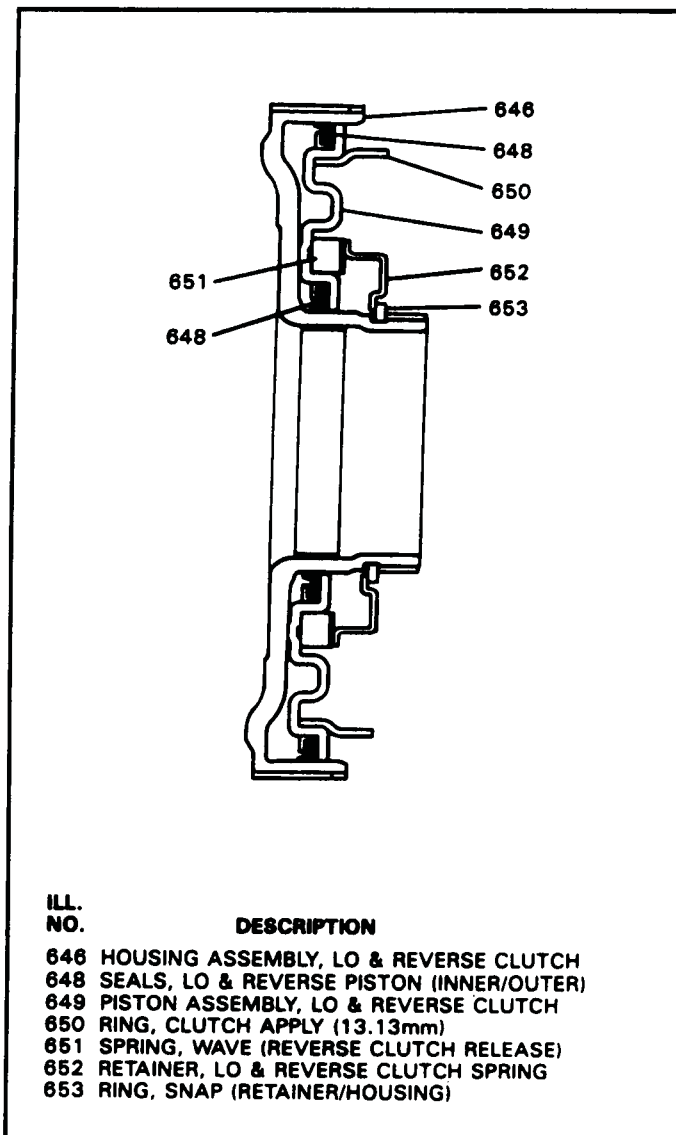

Figure 74
25. Install new inner and outer lip seals onto the Lo/Reverse piston with the lips facing in the direction shown in Figure 74.